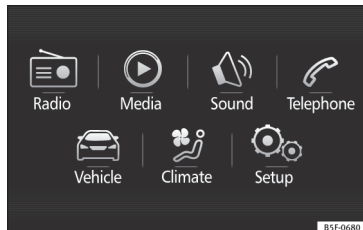

Fig. 35 See position on page 7-8
- Press the system's **MENU** button and then the system's **CAR** button or **CAR** button to go to the **CAR** menu » Fig. 35.